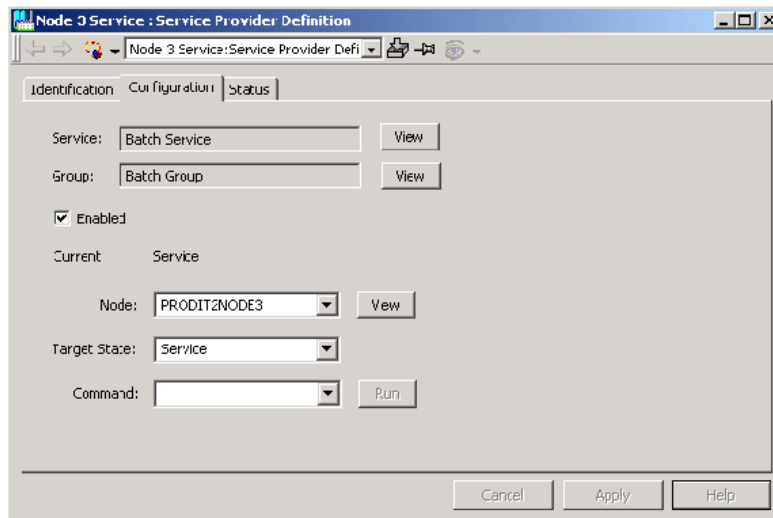

Figure 61. Service Provider Definition Dialog Box
9. Select the name of the Primary Batch Server node in the Node field and click **Apply**. Refer to Figure 61.